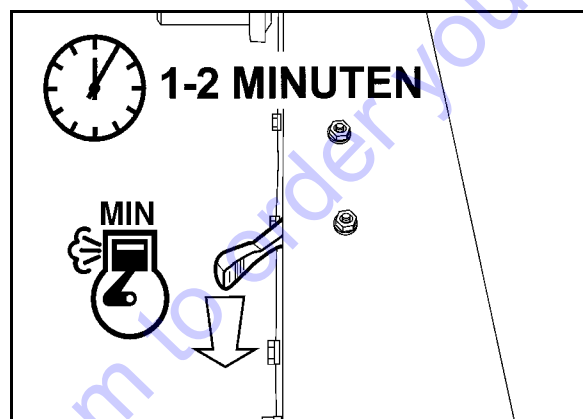

Fig. 27
- Shift the throttle lever (Fig. 27) to position "MIN" and let the engine run with idle speed for a short while.